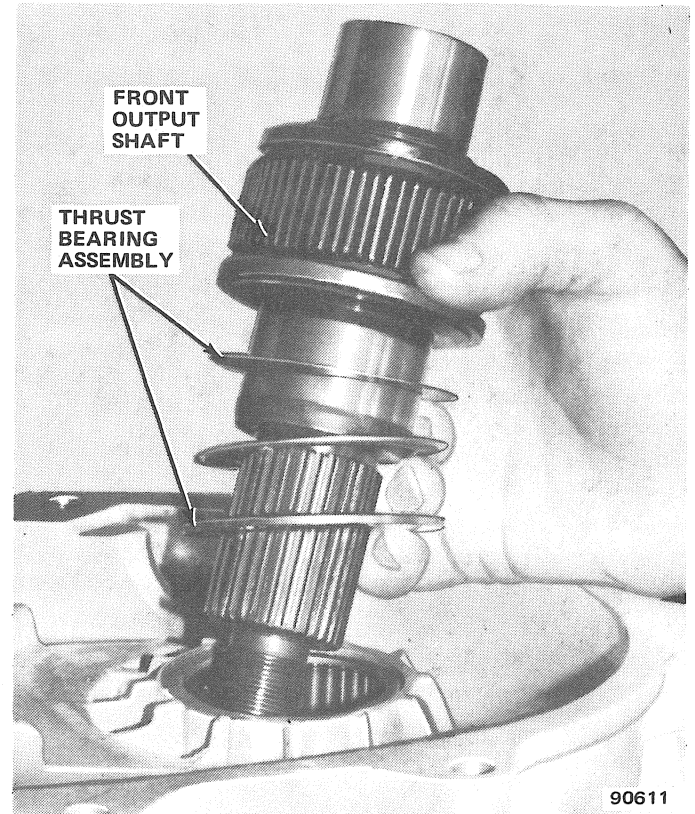

Fig. 2D-16 Front Output Shaft and Front Thrust Bearing Assembly Removal/Installation
- (17) Remove sprocket carrier stop ring (fig. 2D-17).